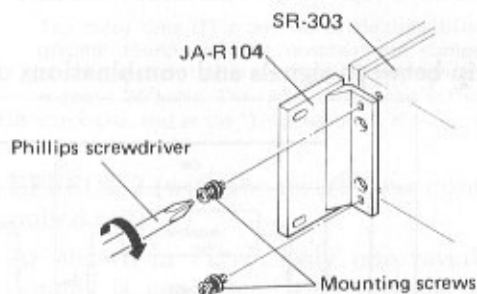

Fig. 7
2. Use the mounting screws which are accessory to the JA-R104 and mount as in Fig. 7.